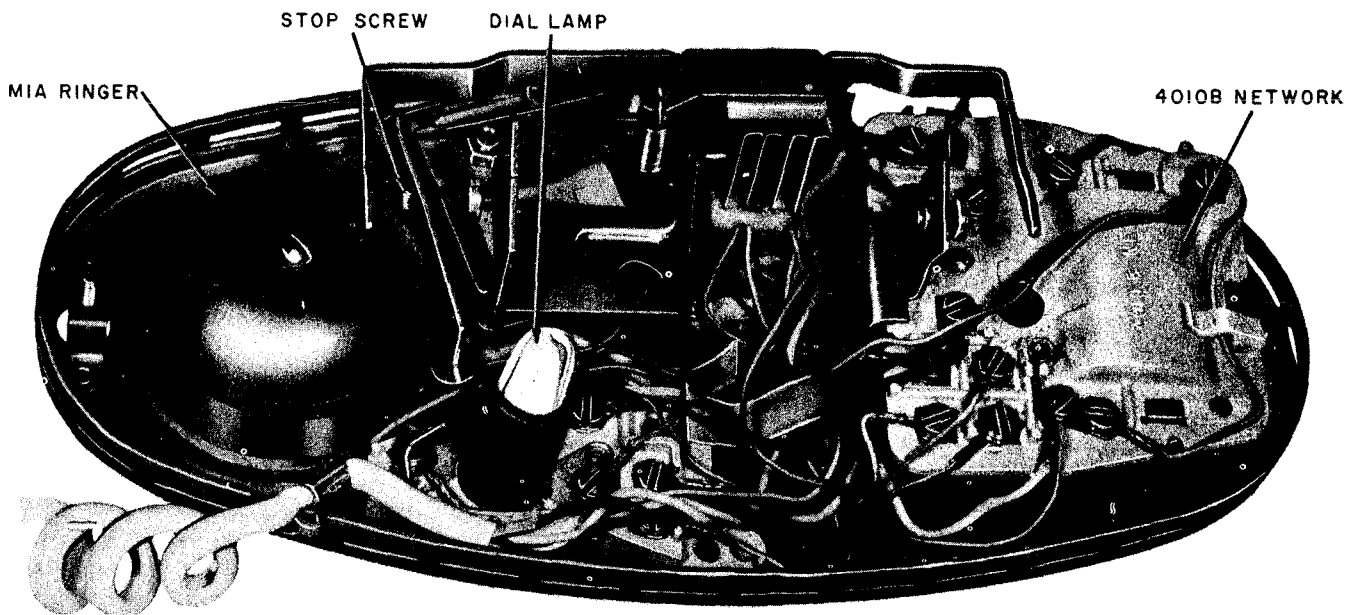

Fig. 4 — 702-Type Telephone Set, Dial and Housing Removed
2.09 The 702-type telephone sets (Fig. 4) are similar to the 701-type except that an internal ringer (M1A) is provided.